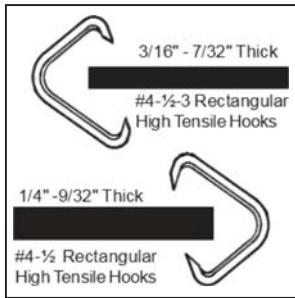

Figure 1
2. GAUGE BELT FOR PROPER SIZE CLIPPER® HOOK (Fig. 1) or refer to baler manufacturer specs.